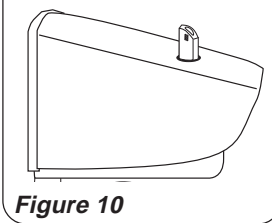

Figure 10
**OSCILLATION:** Push down oscillation knob on motor assembly housing to make fan head move from side to side. (Figures 10 and 11)